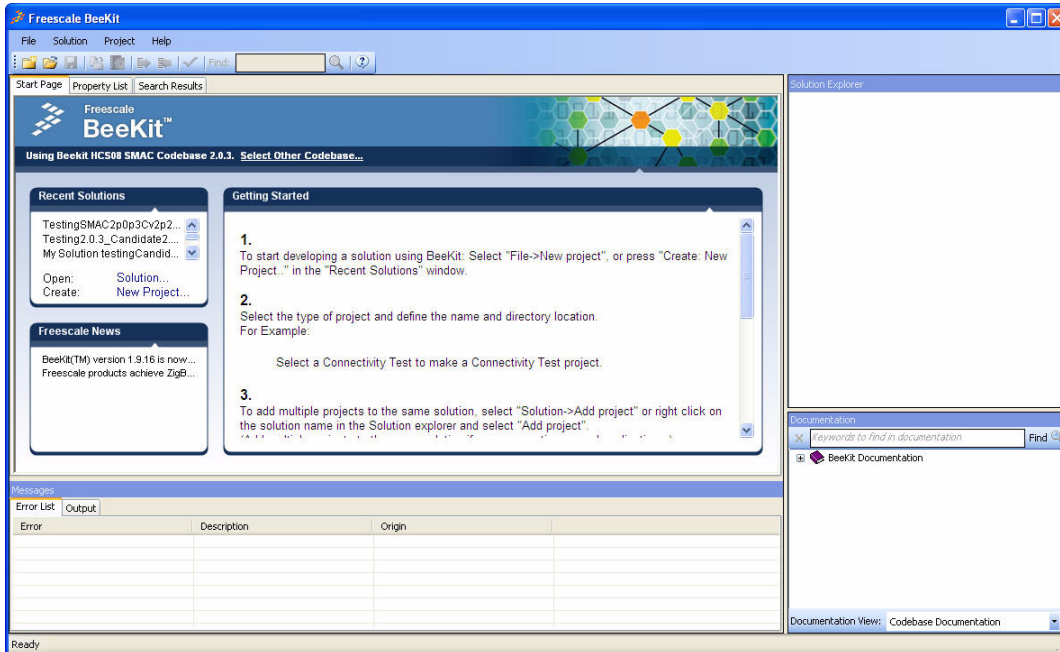

Figure 1-1. BeeKit Graphical User Interface
1. Launch the BeeKit GUI and the BeeKit main window appears as shown in Figure 1-1.
If the system detects any errors, a brief description of the error appears in the Messages section located in the lower left corner of the BeeKit Main window, under the Errors tab as shown in Figure 1-1.